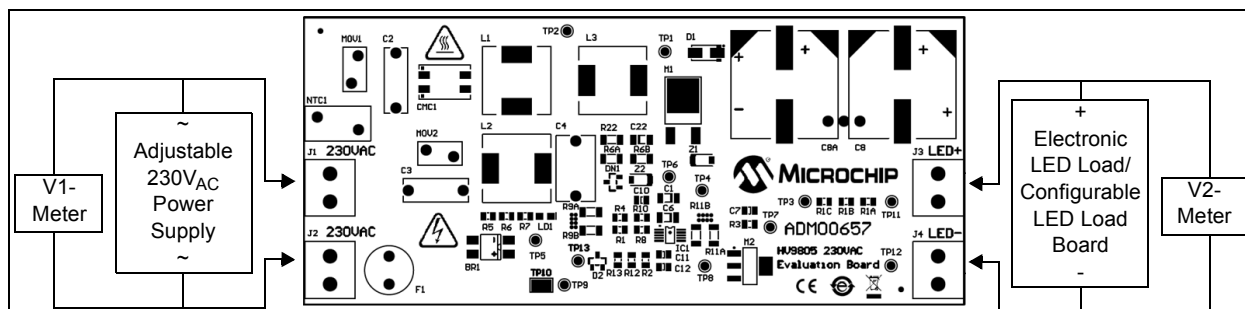
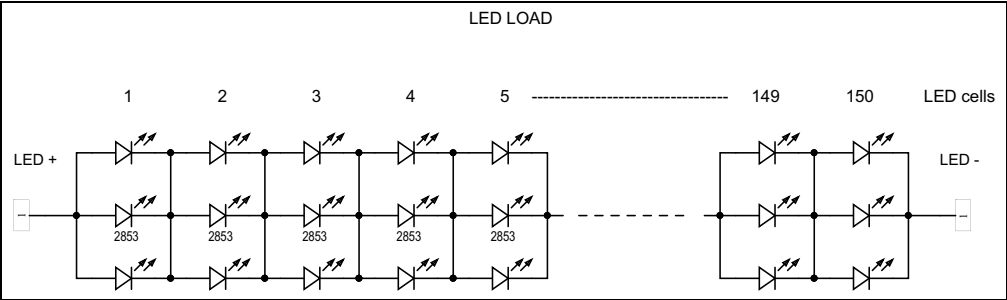

FIGURE 2-1: Connection Diagram.
FIGURE 2-2: LED Load String Example.
- The input connectors, J1 and J2, are placed on the left side of the board and marked 230V_{AC}, as shown in Figure 2-1.
- 2. Connect a voltmeter and the LED string at J3 (V+ LED) and J4 (V- LED) connectors, as shown in Figure 2-1. The LED string can be formed with 132 to 150 LED cells (3 LEDs in parallel), 80 mA SMD LED, 280 mW. An example is shown in Figure 2-2.